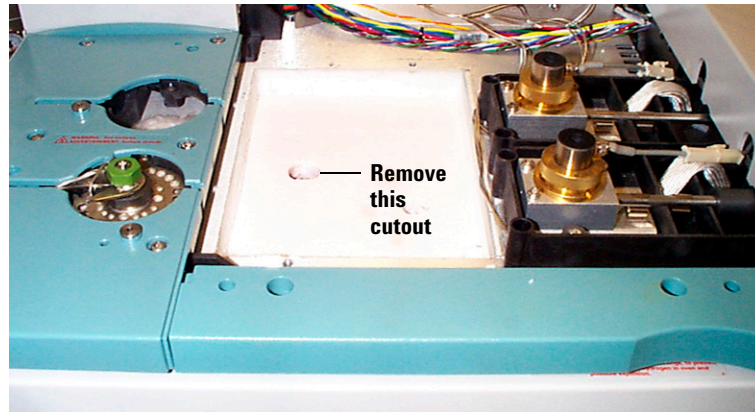

Figure 4 Remove the insulation cutout
- 3 This exposes a layer of soft insulation. Remove it to expose the hard oven insulation. Remove the precut insulation piece at the location shown in Figure 4.